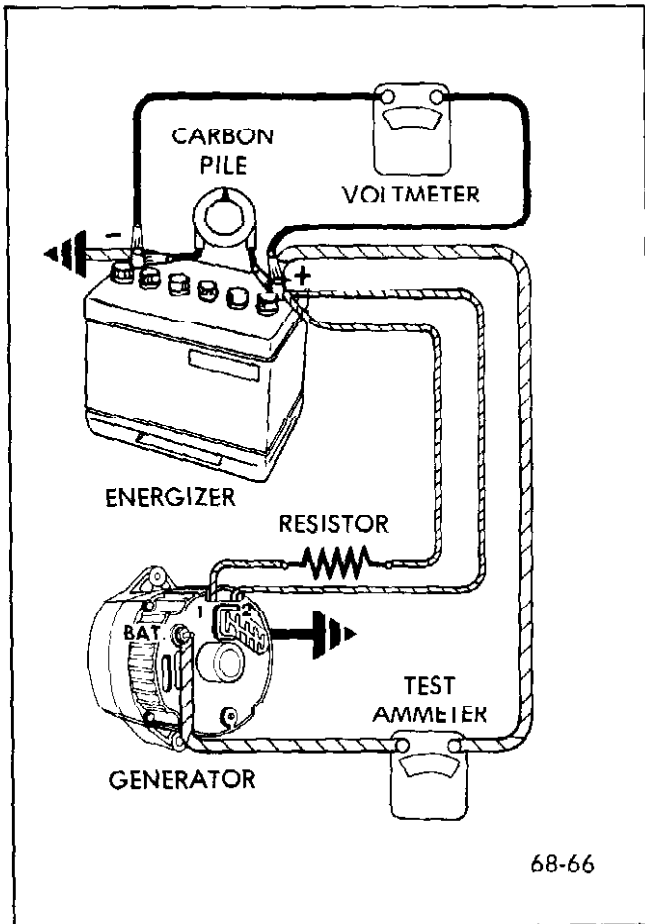

Figure 68-66 - Connections For Bench Check of Generator
1. Make connections, as shown in Figure 68-66, except leave the carbon pile disconnected.